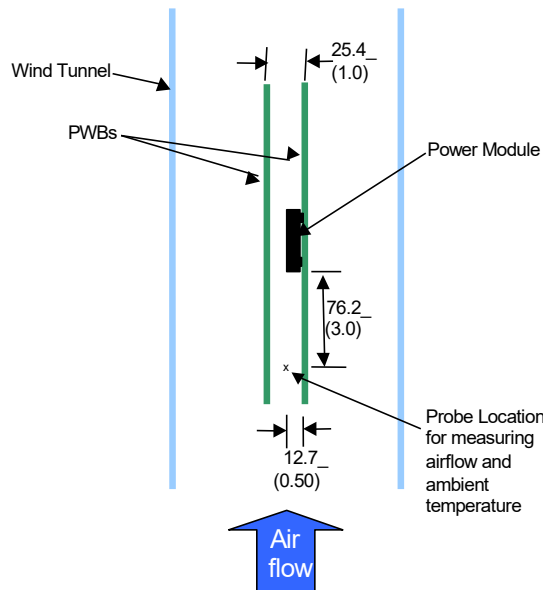

Figure 28. Thermal Test Setup.
Power modules operate in a variety of thermal environments; however, sufficient cooling should always be provided to help ensure reliable operation. Considerations include ambient temperature, airflow, module power dissipation, and the need for increased reliability. A reduction in the operating temperature of the module will result in an increase in reliability. The thermal data presented here is based on physical measurements taken in a wind tunnel. The test set-up is shown in Figure 28. The preferred airflow direction for cooling the module and the thermal reference points, Tref used in the specifications are shown in Figure 29. For reliable operation the temperatures at these points should not exceed 120°C (IC100) and 115°C (C100). The output power of the module should not exceed the rated power of the module ($V_{o,set} \times I_{o,max}$). Please refer to the Application Note “Thermal Characterization Process for Open-Frame Board-Mounted Power Modules” for a detailed discussion of thermal aspects including maximum device temperatures. Increased airflow over the module enhances the heat transfer via convection. The thermal derating of figures 2, 8, 14 and 20 show the maximum output current that can be delivered by each module in the indicated orientation without exceeding the maximum Tref temperature versus local ambient temperature (TA) for several air flow conditions. The thermal derating curves were generated using a 12 layer evaluation board with 3oz copper in inner layers and 2 oz in outer layers